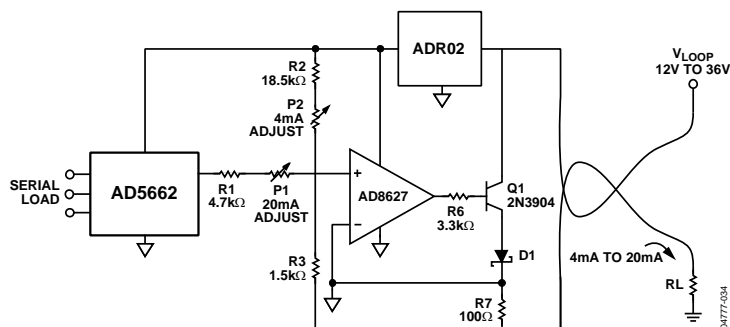

Figure 43. Programmable 4–20 mA Process Controller
A circuit that performs this function is shown in Figure 43. Using the AD5662 as the controller, the circuit provides a programmable output current of 4 mA to 20 mA, proportional to the DAC's digital code. Biasing for the controller is provided by the ADR02 and requires no external trim for two reasons: (1) the ADR02's tight initial output voltage tolerance and (2) the low supply current consumption of both the AD8627 and the AD5662. The entire circuit, including opto-couplers, consumes less than 3 mA from the total budget of 4 mA. The AD8627 regulates the output current to satisfy the current summation at the noninverting node of the AD8627.
For the values shown in Figure 43,